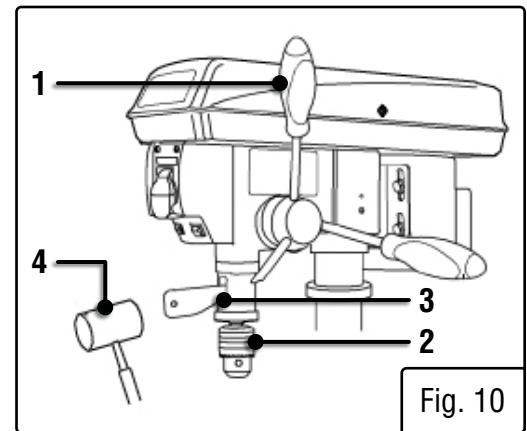

Fig. 10
REMOVE THE CHUCK (FIG. 10)
1. Turn the feed handles (Fig. 10 - 1) to lower the chuck (Fig. 10 - 2) to the lowest position.
2. Insert the drift key (Fig. 10 - 3) into the opening in the quill. Gently tap on the wedge using a rubber mallet (Fig. 10 - 4) (not included). The chuck and arbor will drop out.